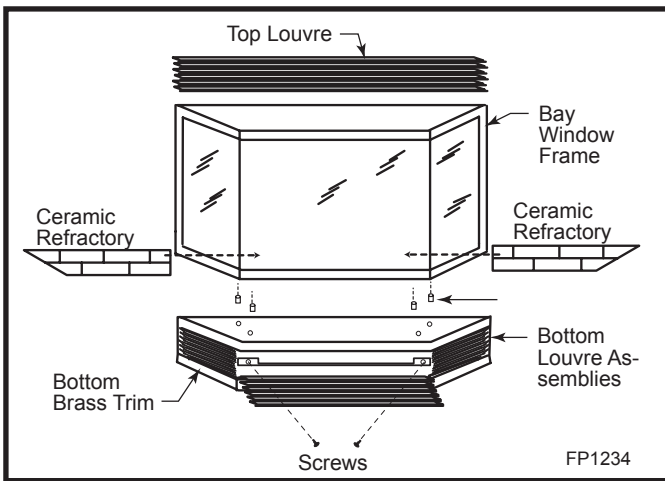

Fig. 61 Bay window installation.
4. Place the 2 pieces of ceramic refractory along the base of the bay window. (Fig. 61)